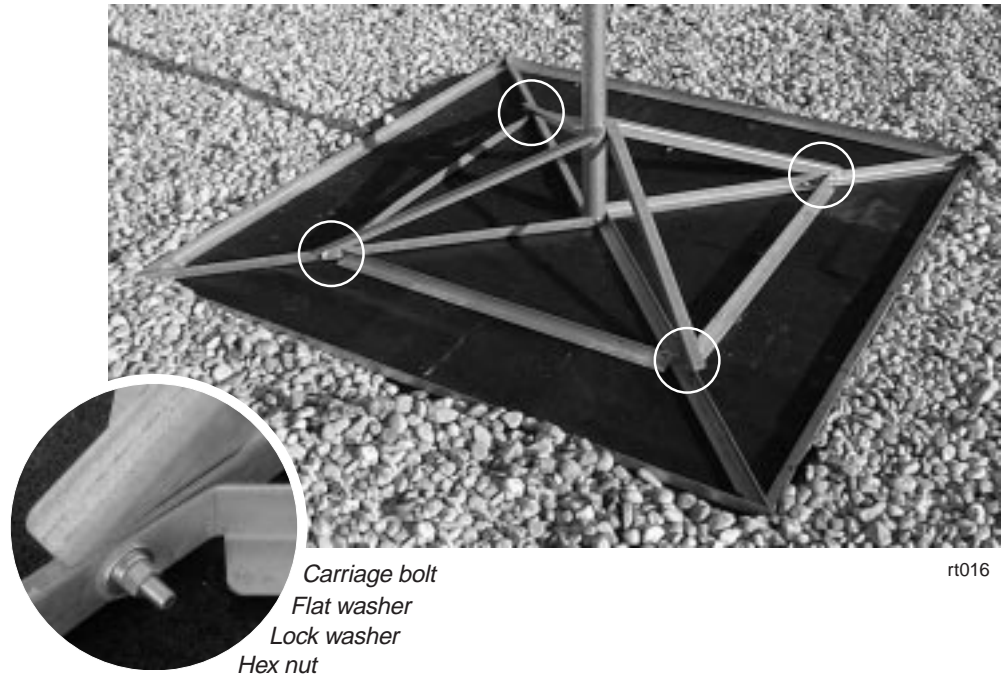

Figure 3-8 Attaching inner brace angles to diagonal base angles and mast brace angles
7. Place the inner brace angles on the rubber pad and connect them to the diagonal base angles and mast brace angles as shown in figure 3-8.